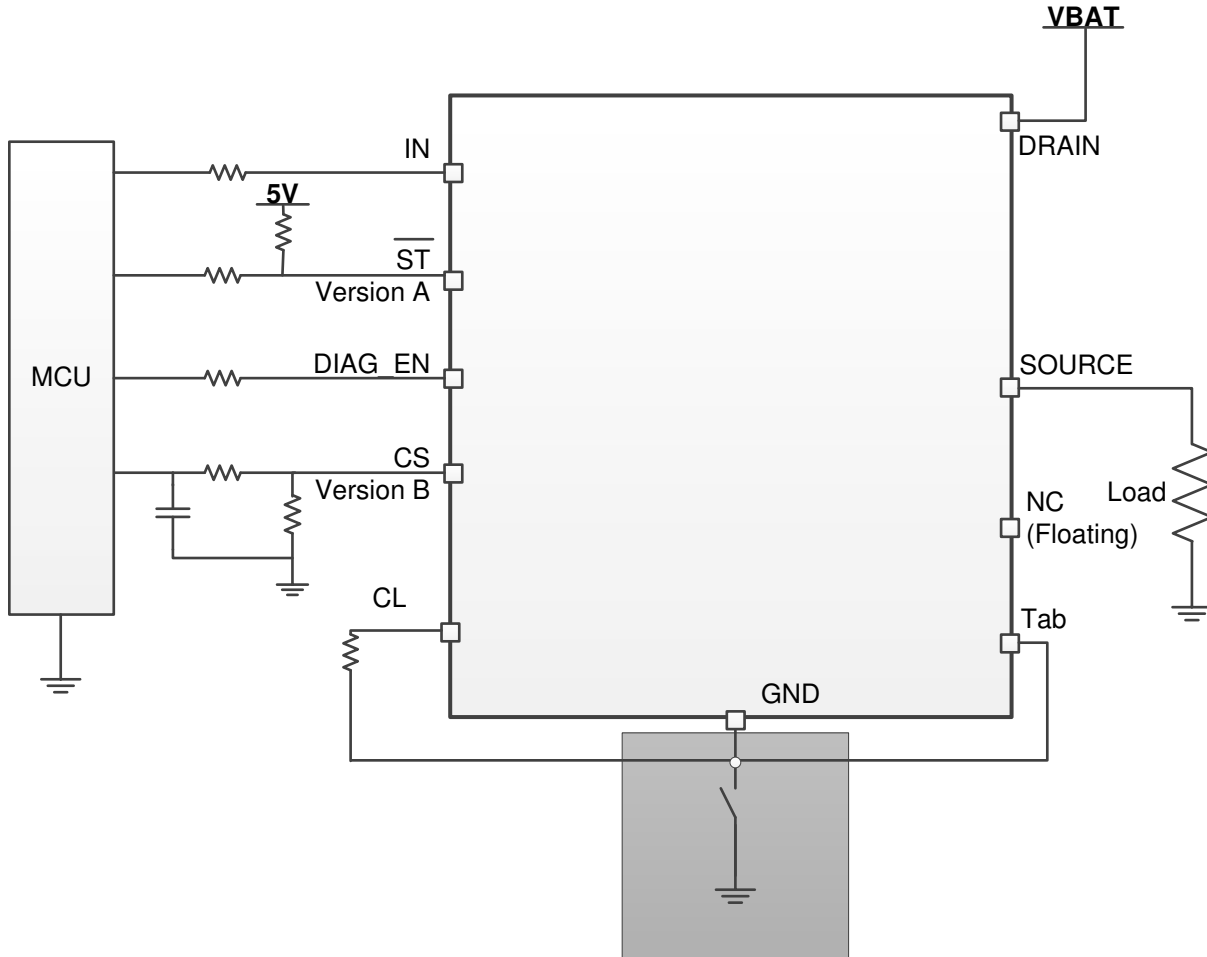

Figure 38. Loss of Device GND
**Case 1 (loss of device GND):** Loss of GND protection is active when the Tab,  $I_{C\_GND}$ , and current limit GND are one trace connected to the board GND, as shown in Figure 38. Tab floating is also a choice.